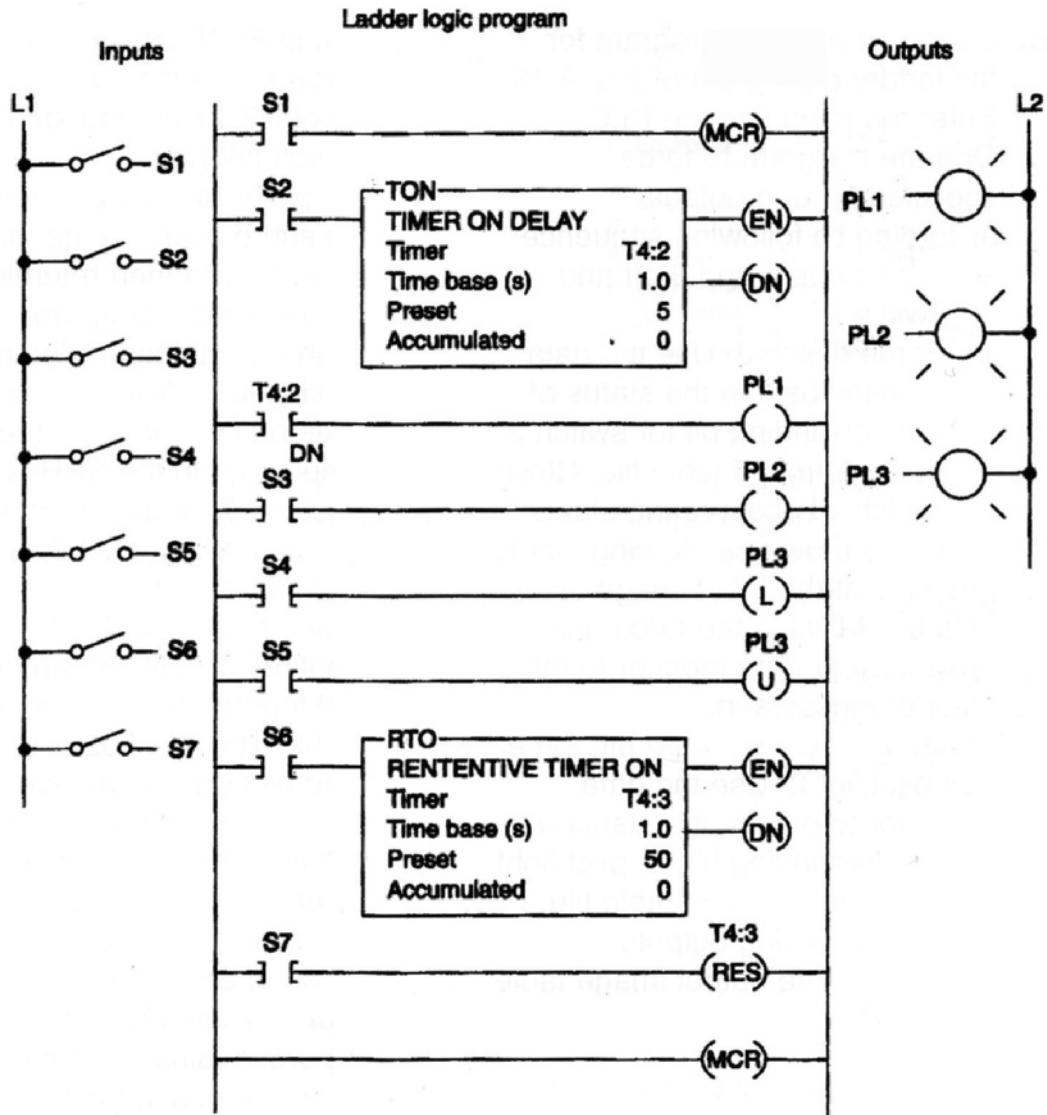

Figure 9-17 Program for assignment 9.
9) Construct a simulated program for the MCR program of Figure 9-17. Enter the program into the PLC. Operate the program according to the following sequence: